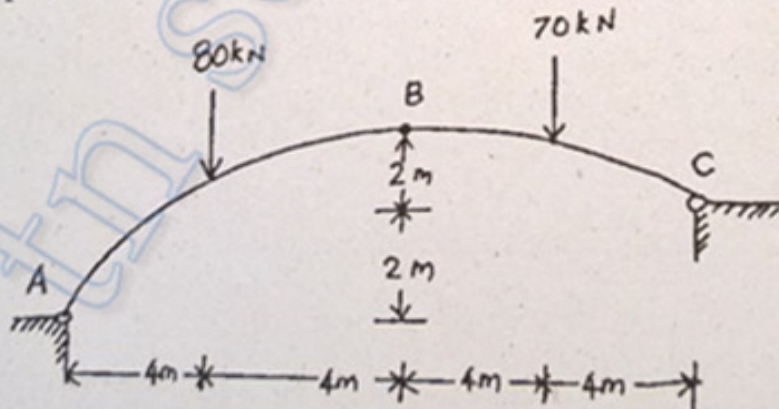

Fig. Q. 13 (b)
- (b) A three pinned arch is shown in Fig. Q. 13 (b). Find